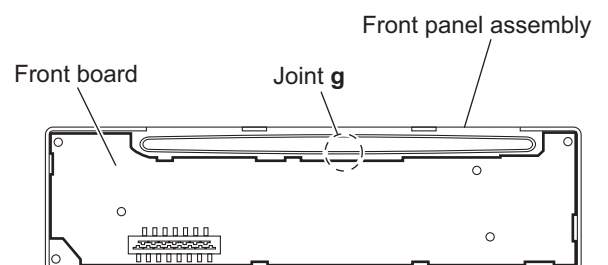

Fig.10
- Release the joint **g** and take out the front board from the front panel assembly. (See Fig.10.)
### 3.2.5 Removing the clamper assembly (See Figs.10 and 11)